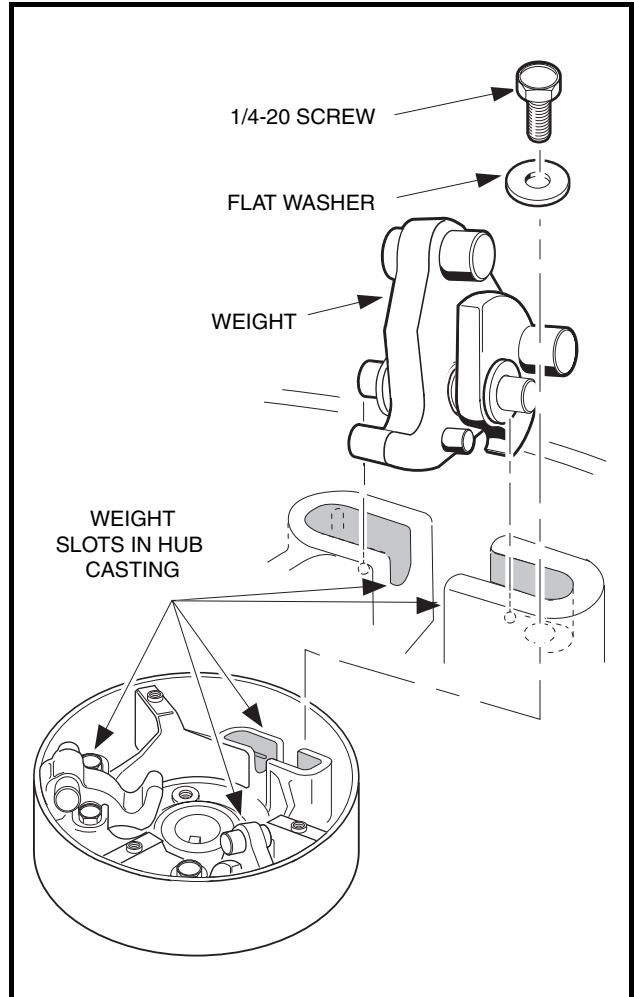
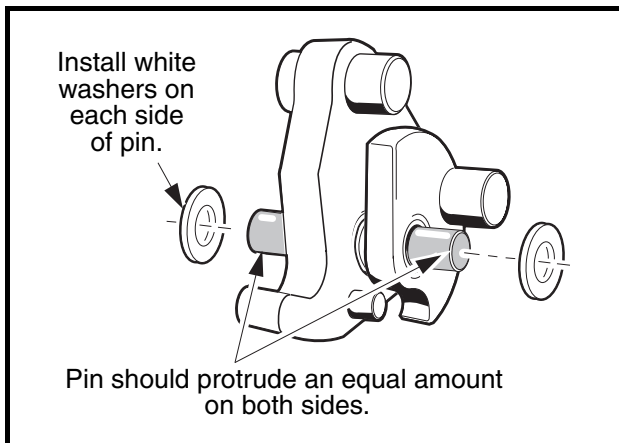

Figure 17-9 Weight Position
Figure 17-14 Install White Washers
- 5.1. Remove the screws and flat washers attaching the weights (**Figure 17-9, Page 17-9**).
10. Install white plastic flat washers on each end of the mounting pin and push them against the outside surfaces of the weights. Center the weights and washers on the mounting pin (**Figure 17-14, Page 17-11**).
11. Install the weight assemblies into the slots in the hub casting (**Figure 17-9, Page 17-9**). Make sure the mounting pin protrudes an equal amount on each side of the weights when the assemblies are in position (**Figure 17-14, Page 17-11**).
15. Install a no. 10-24 button retaining screw with flat washer through each button and into the rib. Tighten the screws to 34 in-lb (3.8 N·m) (**Figure 17-9, Page 17-9**).